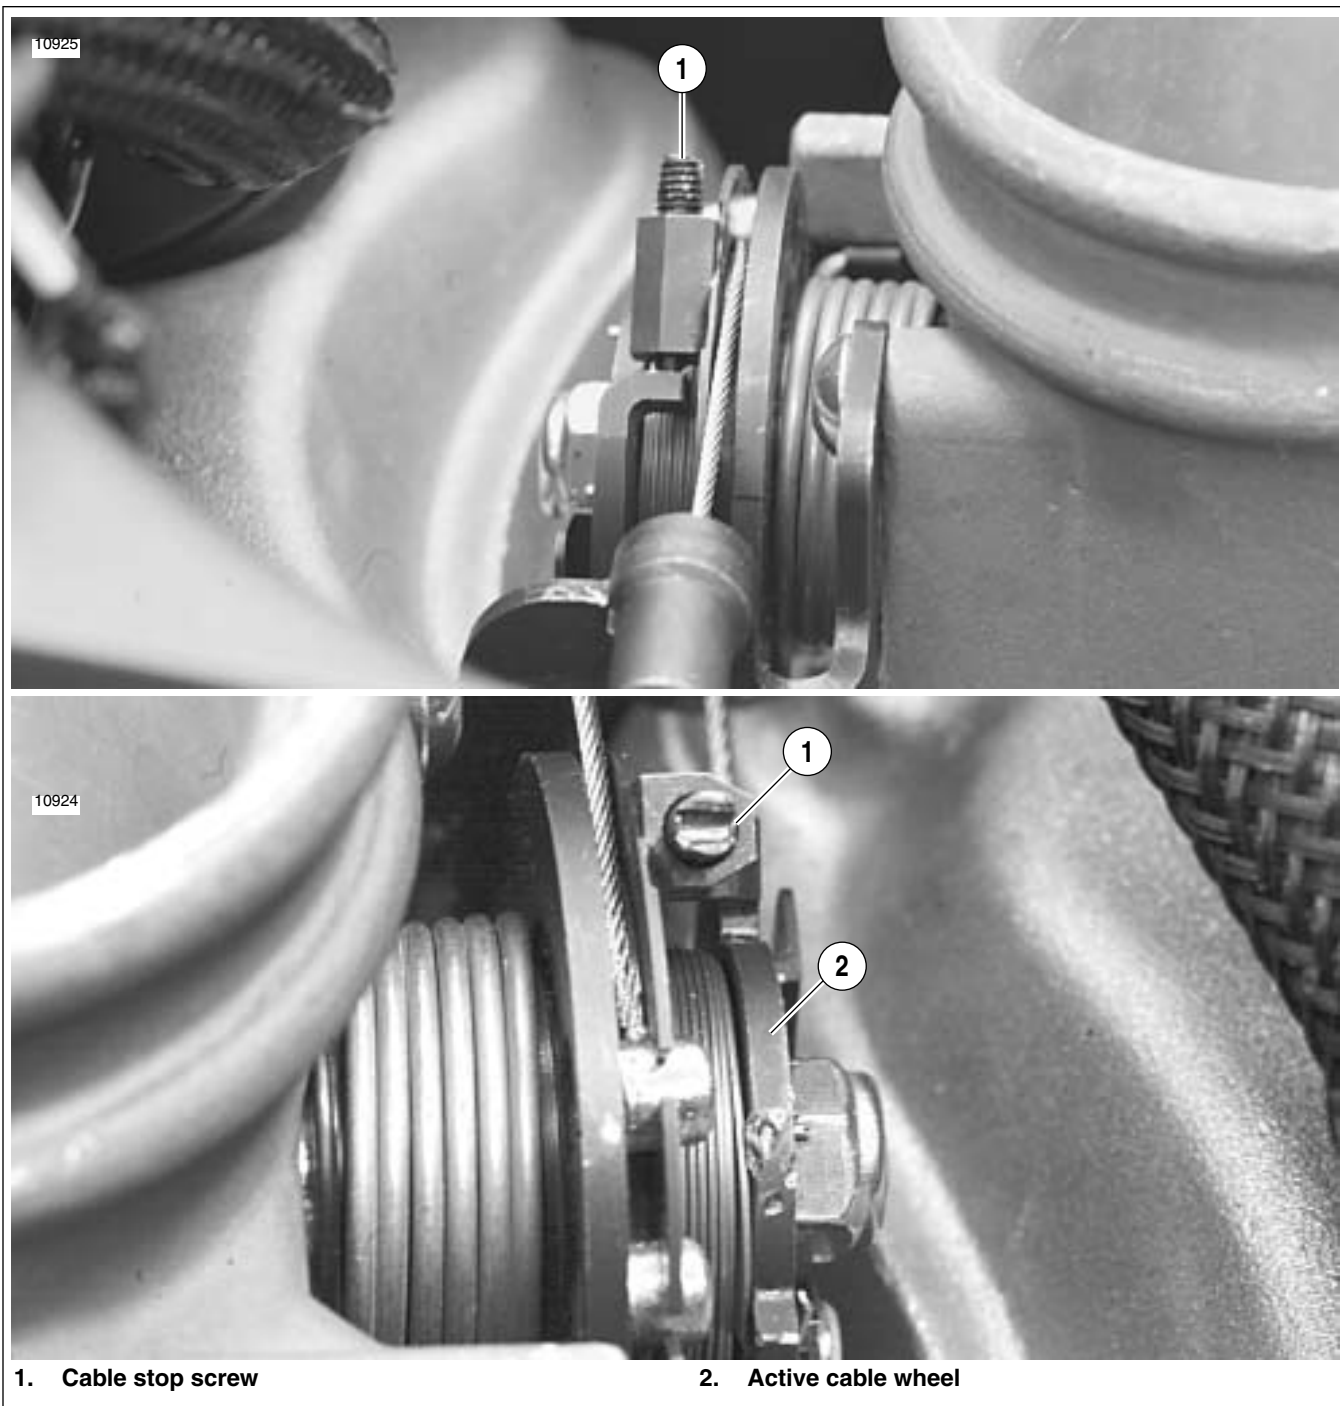

Figure E-3 Active Intake Cable Stop Screw
7. Remove baseplate (10). See 4.44 AIR CLEANER ASSEMBLY.
8. See Figure E-3. If the active cable needs to be replaced disconnect from cable wheel (2).